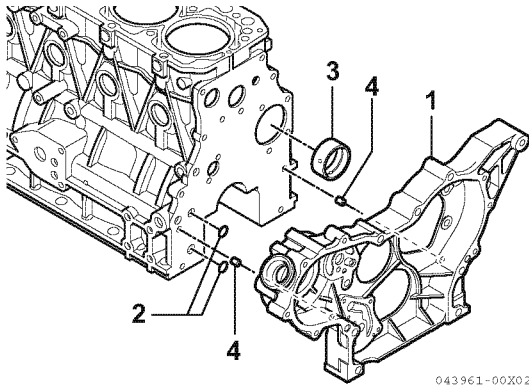

Figure 6-52
6. **3TNV88C - 4TNV86CT:** Remove the O-ring (**Figure 6-52, (2)**) and dowels (**Figure 6-52, (4)**).